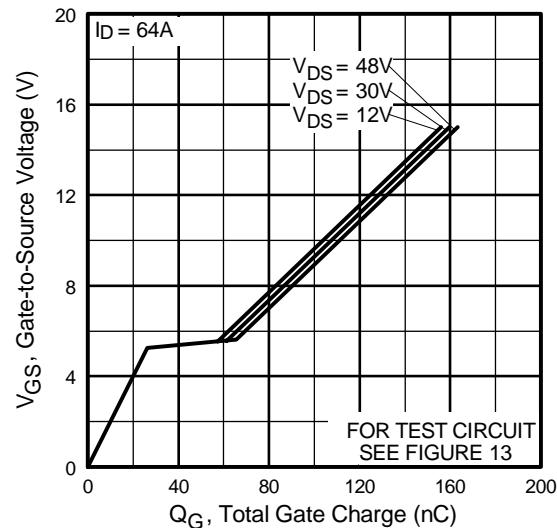

Fig 6. Typical Gate Charge Vs.
| Q_{gd} | Gate-to-Drain ("Miller") Charge | — | — | 59 | | $V_{GS} = 10\text{V}, \text{See Fig. 6 and 13}$ ⑦ |